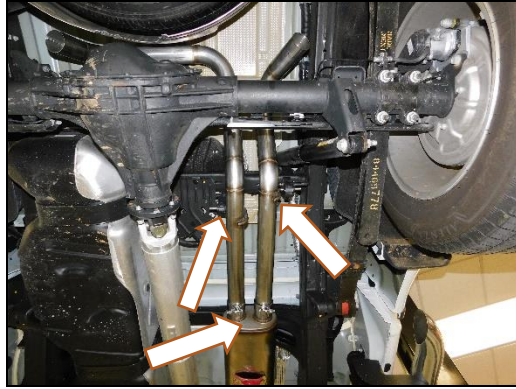

Figure 6
- Slide on the (x2) supplied band clamps and install the right and left side over the axle pipes in to the back of the muffler. Slide (x2) hangers in to the OE rubber isolators (**Figure 6**).